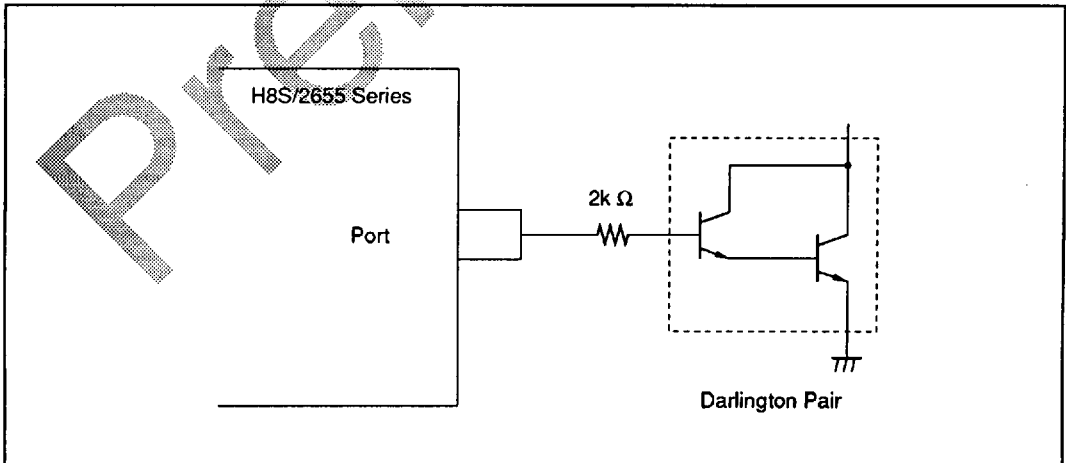

Figure 22-1 Darlington Pair Drive Circuit (Example)
2. When driving a darlington pair or LED, always insert a current-limiting resistor in the output line, as show in figures 22-1 and 22-2.